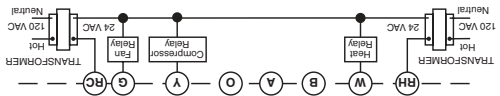

Figure 3. Typical wiring for two-transformer heating/cooling system
E. Electric heat or single stage heat pump systems: These thermostats are Fig 3.)